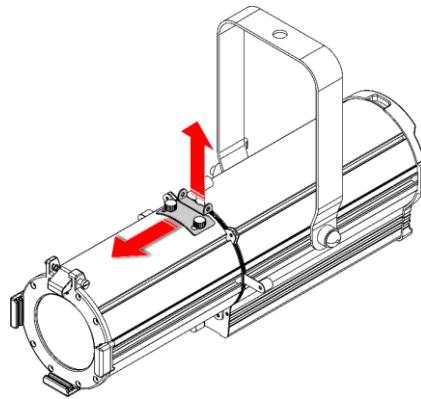

Fig. 16
- 02) Slide the **gobo slot cover plate (10)** towards the **lens (05)** (see Fig 16).